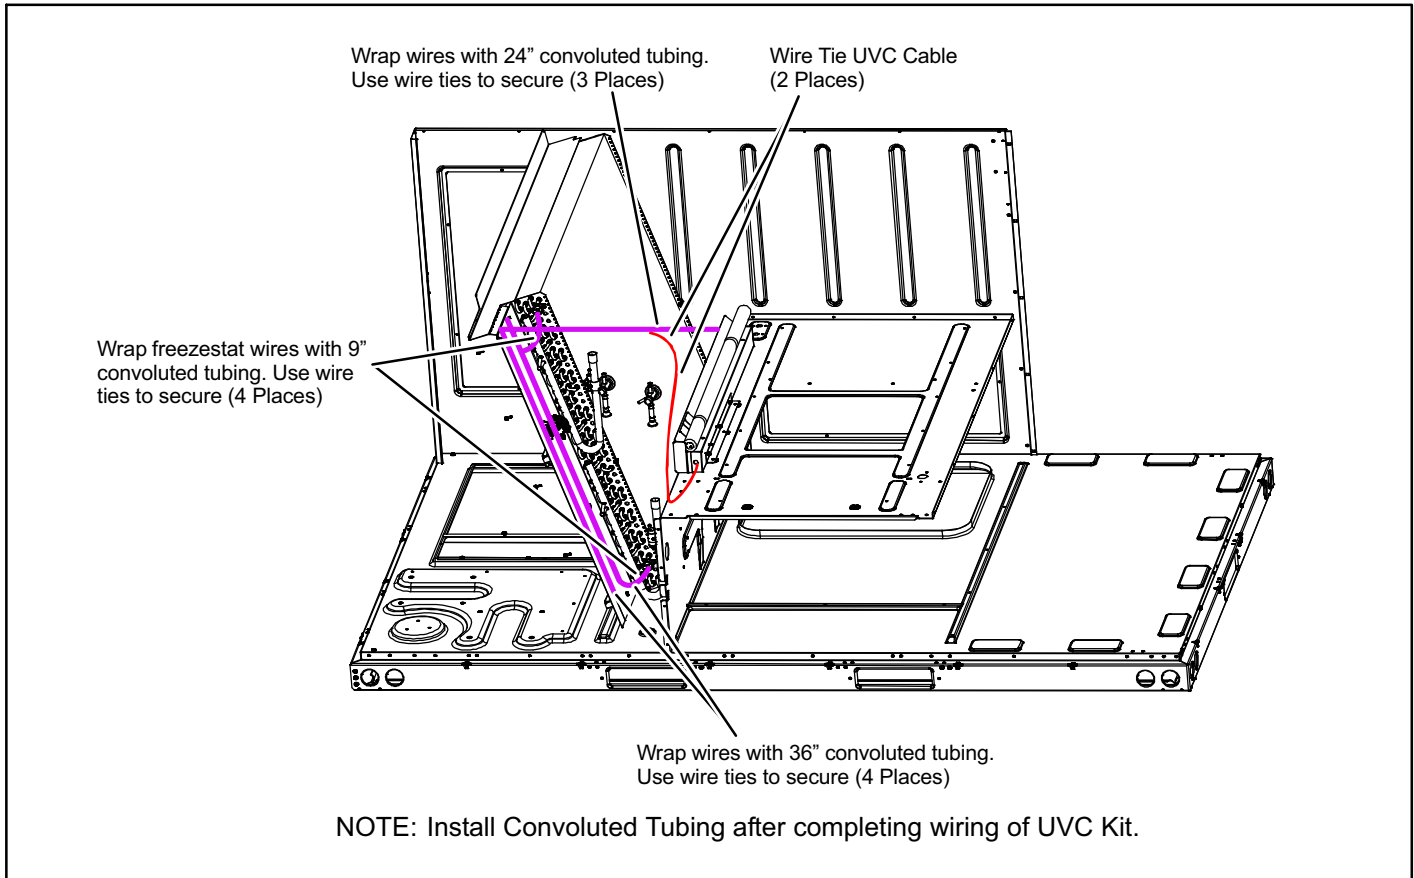

Figure 9. Installing Convoluted Tubing
1. Install (2) 36" long, 1" diameter convoluted tubing (included in the kit) to shield electrical wiring running along the coil bracket (see figure 9). The tubing is split type making it easy to slip on the wiring. Black wire ties are provided to tie the tubing in place.
2. Install (2) 9" long, 1" diameter convoluted tubing (included in the kit) to shield freeze-stat wiring (if applicable) and tied using black wire ties (see figure 9).
3. Install (1) 24" long, 1" diameter convoluted tubing (included in the kit) to shield electrical wiring along the top of the rooftop unit between blower deck and control panel (see figure 9). Black wire ties are provided to tie the tubing in place.